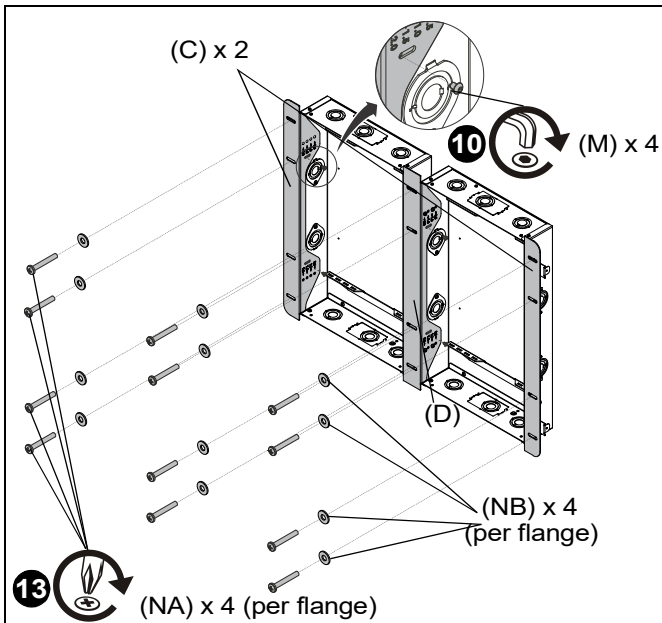

Figure 5
10. Place flange (C or D) over anchors and align mounting holes in display mount with holes in anchors. Loosely use two #10-24 x 1/4" button head cap screws (M) to secure each side flange (C) and saddle flange (D) to installed boxes. (See Figure 5)
13. Use four 1/4-20 x 2" Phillips pan machine screws (NA) and four 1/4" washers (NB) to secure each flange to studs. (See Figure 5)